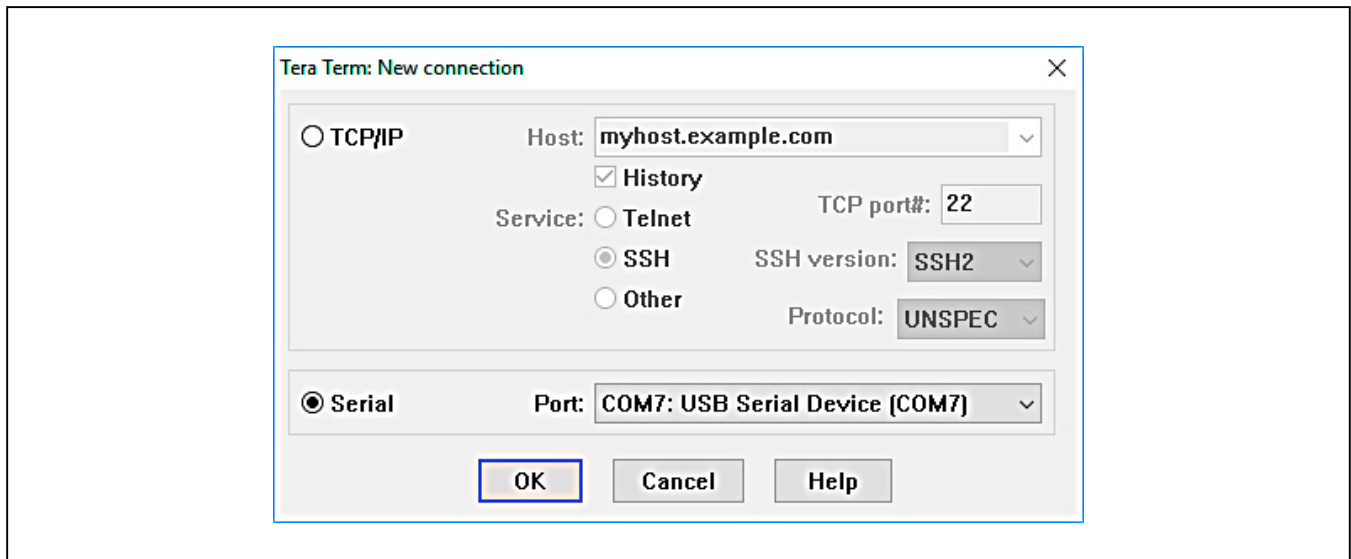

Figure 2. Selecting the COM port (the USB serial device is COM7).
- Open a serial program like the tera term and connect to the USB Serial COM port (**Figure 2**).